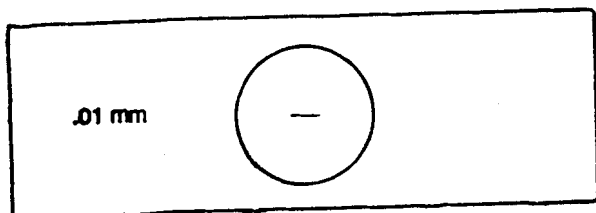

FIG. 1A STAGE MICROMETER
2. The stage micrometer is a 1" X 3" slide with an etched scale, usually of 100 equal small divisions; the entire scale is usually 1 millimeter (1000 microns) long. Every fifth and tenth division is usually a somewhat longer vertical line to enable the user to count the stage micrometer readings more readily. Every small division is equal to 10 microns; five divisions equal 50 microns; ten divisions equal 100 microns. The stage scale is the known scale of lengths. (Some stage micrometers are calibrated in fractions of an inch rather than metrically). Fig. 1A, Fig. 1B